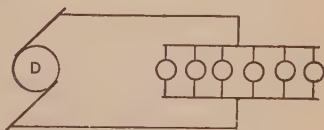

FIG. 86.
**Prob. 48.** Each lamp in Fig. 86 takes 2 amp. at 112 volts. The lamps are 500 ft. from the generator. The line wire is  $\frac{1}{8}$  inch in diameter. What is the voltage of the generator?